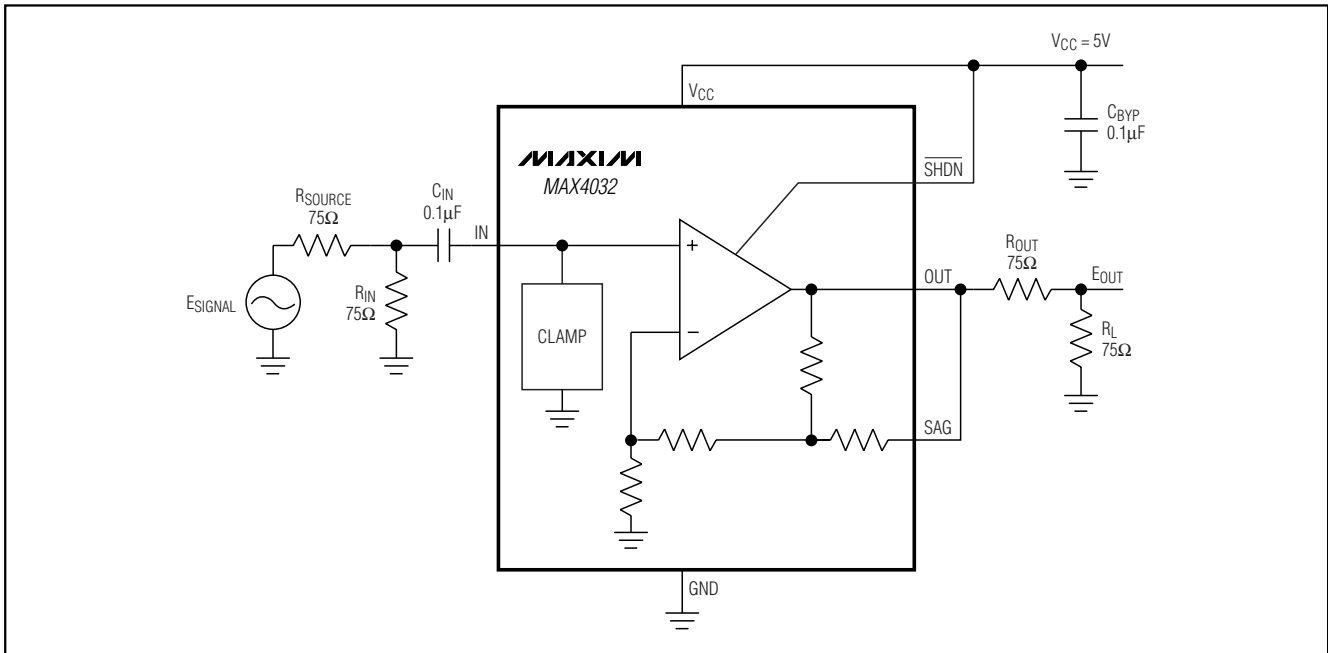

Figure 2. DC-Coupling the MAX4032
- 1) SAG is shorted to OUT and 150 Ω is directly connected from OUT to ground (see Figure 2).